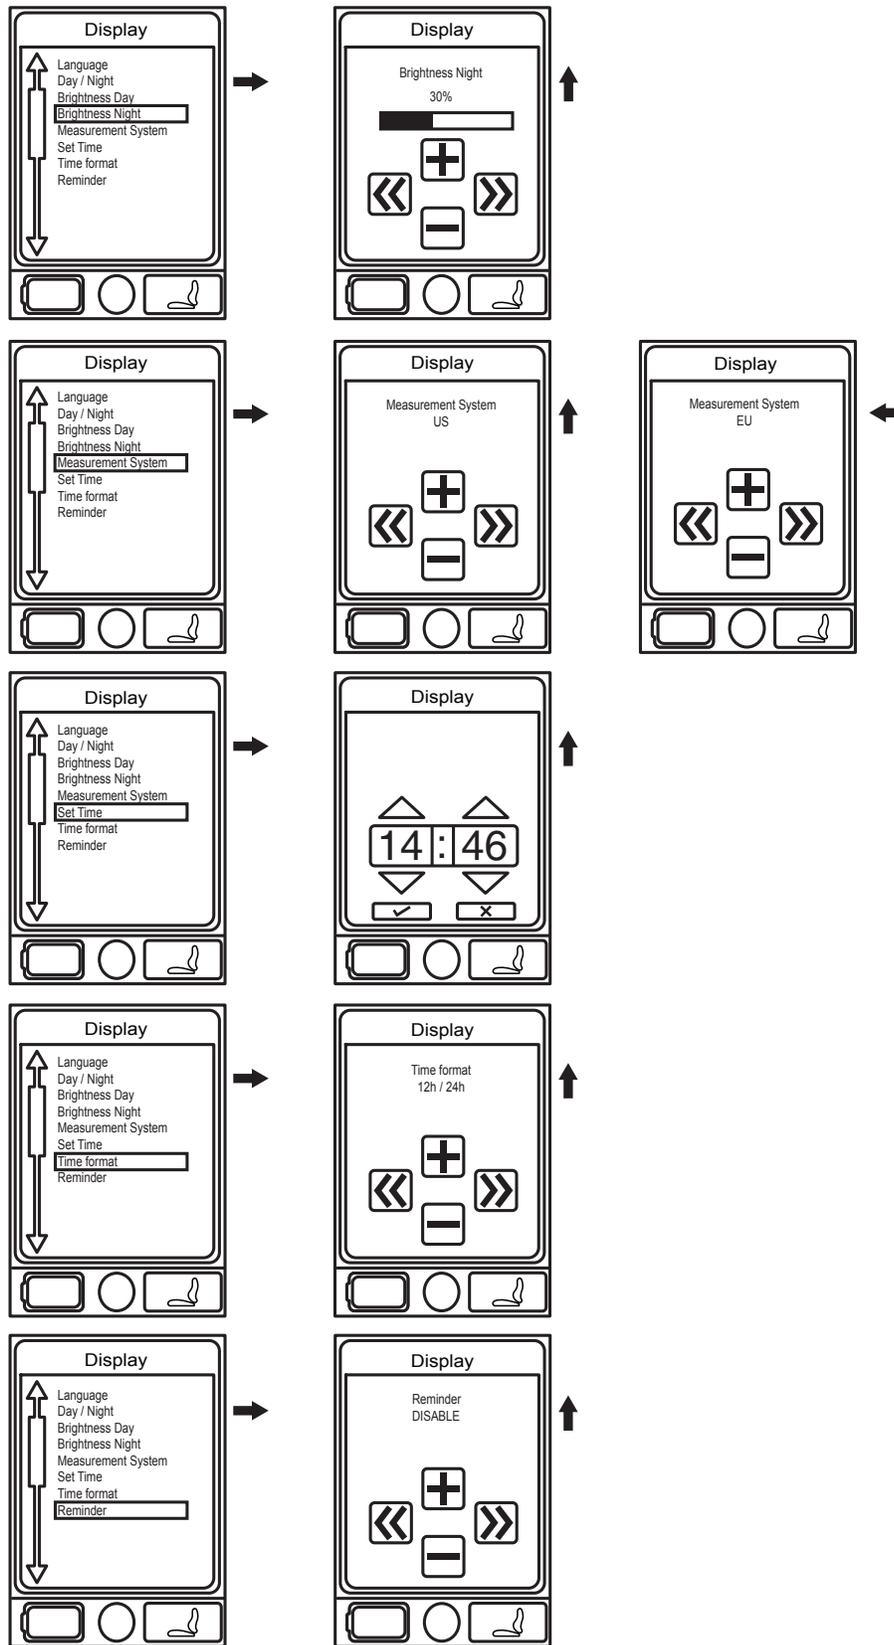

Figure 5B. Menu Screens
2. Push the Menu button to access the Main Menu screen. **See figure 5B.**
3. Use the joystick to highlight the Handcontrol Settings option, then push the joystick to the right to select that function. **See figure 5B.**
6. Use the joystick to highlight the Max option, then push the joystick right to select that function. **See figure 5B.**
7. Push the joystick left to select the ESC option and return to the Sound & Display menu. **See figure 5B.**